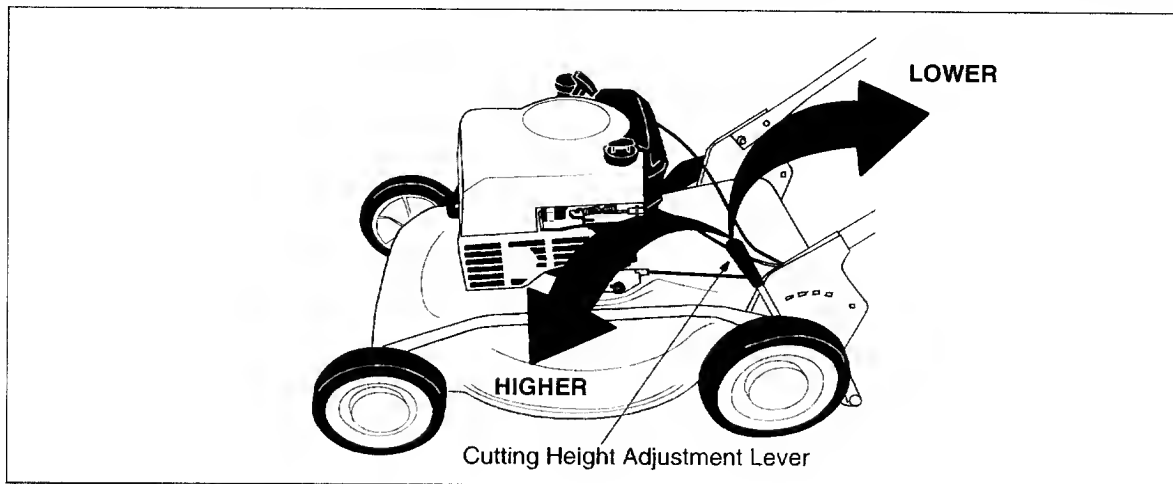

Figure 6
**Note:** Your mower is shipped with the cutting height in the lowest position. Adjust the cutting height as follows. The cutting height adjustment lever is located above the left rear wheel. To adjust the cutting height, pull the lever out and away from the mower and then move it forward or backward to select a new cutting height. See Figure 6.